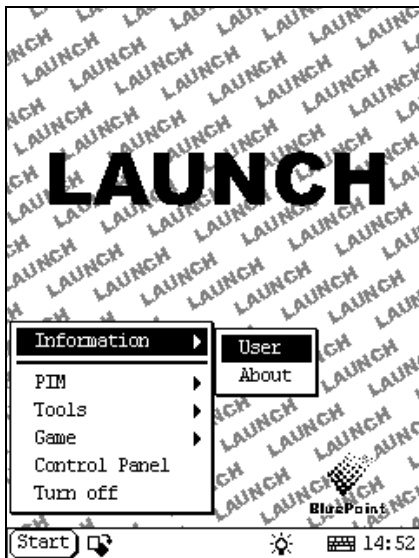

Figure 4-43
- 3) Select 'User' in the pop-up list to open the User Information interface. (See Figure 4-43)